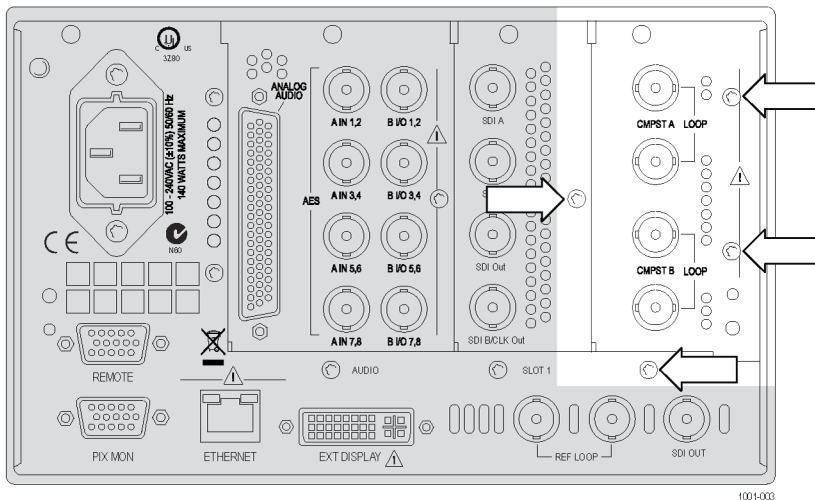

Figure 7: Removing the Slot 2 rear-panel screws
1. Remove the four screws from the Slot 2 rear panel. (See Figure 7.) Then remove the panel. Save the screws for reinstallation.